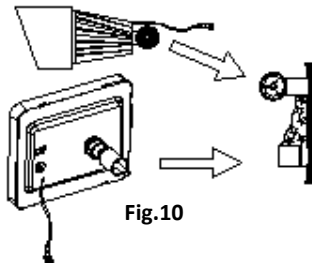

Fig.10
- Mount Solar Panel to pole mount base using provided butterfly nut (Fig.10).Adjust lamp initial aiming direction before fixing it.